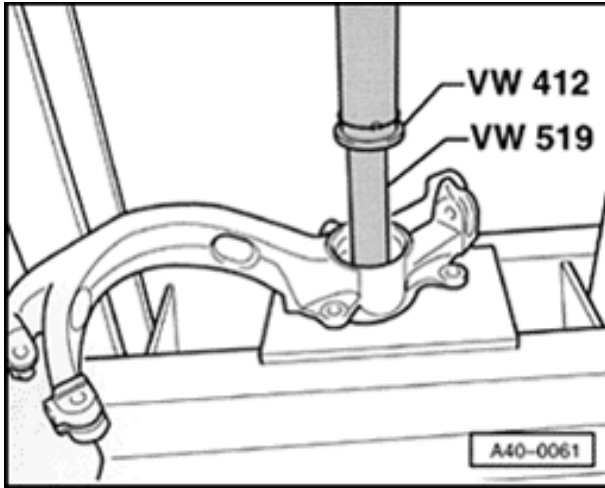

Fig. 3 Pressing wheel bearing out of wheel bearing housing with 75 mm diameter
- ◆ Pressing out 75 mm dia. ⇒ Fig. 3